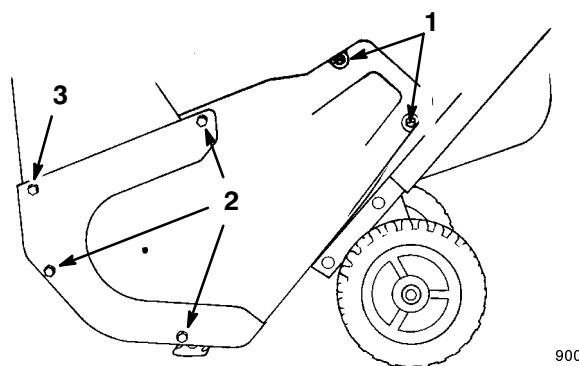

Figure 19
8. Remove three self-tapping screws, three cap screws, a washer, and three nuts that secure the left side cover to the snowthrower frame (Fig. 19).